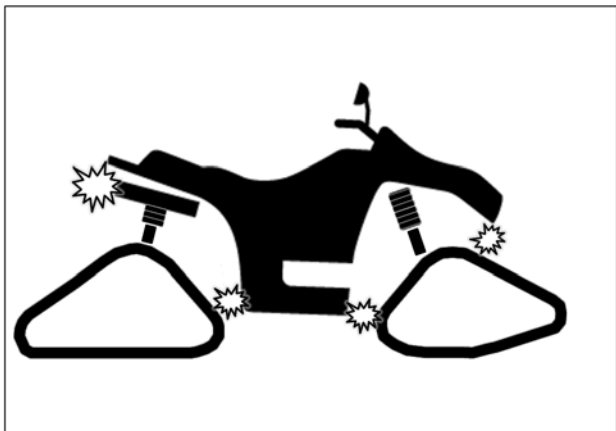

Fig. 25
3. Verify for possible contact between Track System and lower fender corners. See Fig. 25